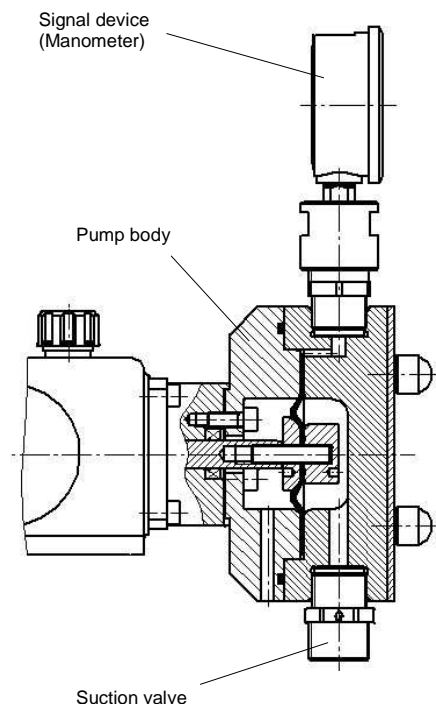

Fig. 40
- Screw in the signal device (see Fig. 40)